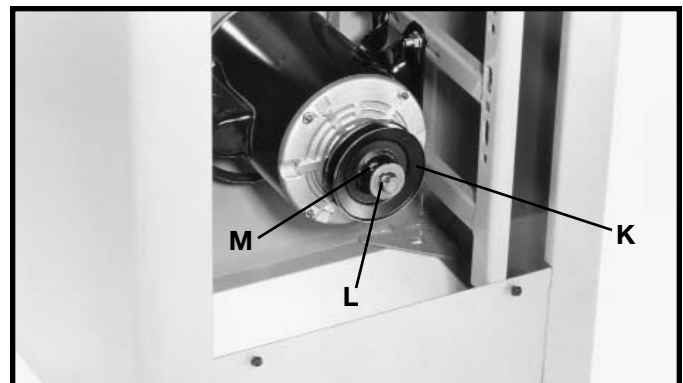

Fig. 10
Assemble motor pulley (K) Fig. 10, to motor shaft with the hub of the pulley in the outer position as shown. Make certain key (L) is inserted in the keyway of the pulley and motor shaft, then tighten set screw (M) using the 2.5mm hex wrench (not shown).